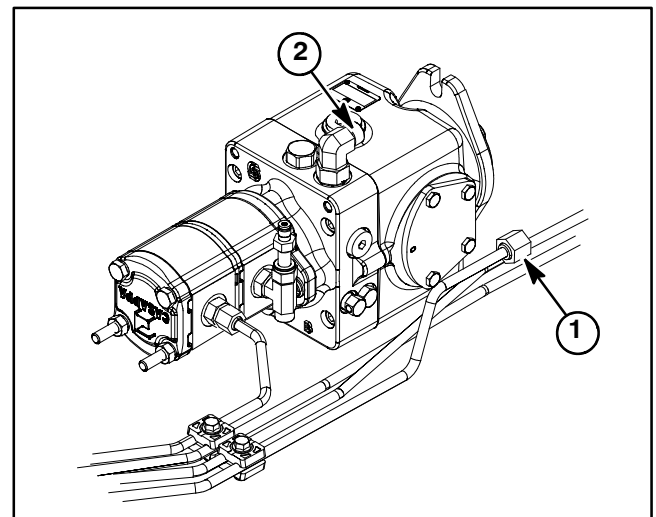

Figure 34
5. Install tester with pressure gauge and flow meter in place of the removed oil filter assembly and hydraulic tube (Fig. 34). Connect tester inlet hose to the hydraulic tube. Connect the tester outlet hose to the piston (traction) pump fitting. **Make sure the flow control valve on tester is fully open.**
8. Make sure hydraulic oil is at normal operating temperature by operating the machine under load for approximately ten (10) minutes.